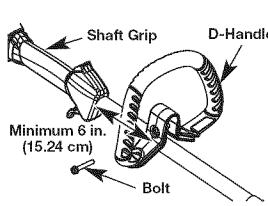

Fig. 2
- Push the D-handle down onto the boom (Fig. 2), so that the bolt hole in the D-handle is to the right.
- While holding the unit in the operating position (Fig. 2), move the D-handle to the location that provides the best grip. Place it a minimum of 6 inches (15.24 cm) from the end of the shaft grip.
- Tighten the bolt until the D-handle is secure. (Fig. 2)